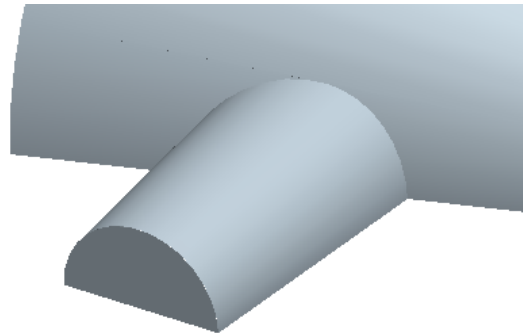

Figure 13-82 Surface after creating the fill surface
- Exit the **Sketcher** environment and then exit the **Fill** dashboard by choosing the Build Feature button. The Fill surface is created as shown in Figure 13-82.